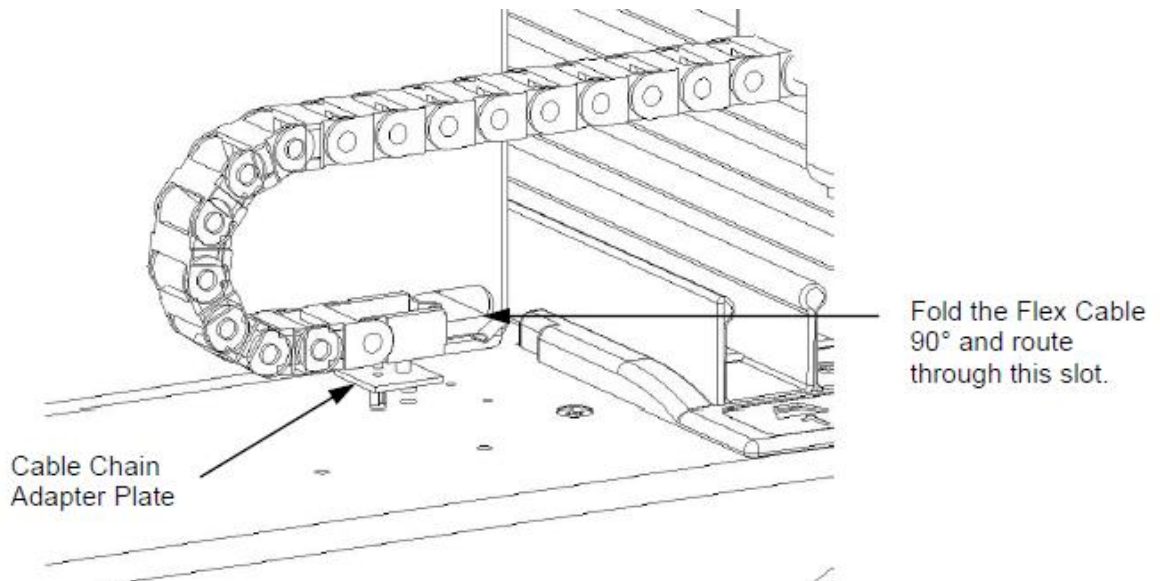

Figure V-3: Removing the Flex Cable
3. Remove the Flex Cable. (Figure V-3).